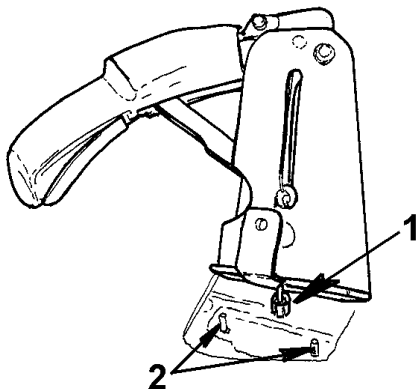

Figure 5 Parking Brake Cable Access
6. Lift the parking brake lever from the base plate and position it on its side to gain access to the parking brake cable (Figure 5).